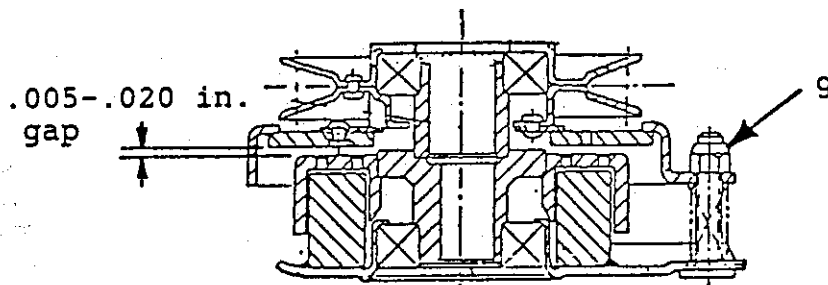

Fig. 10 Electric Clutch Adjustment
- c. Locate the three "windows" or "notches" where the air gap is checked (see Figure 10.)